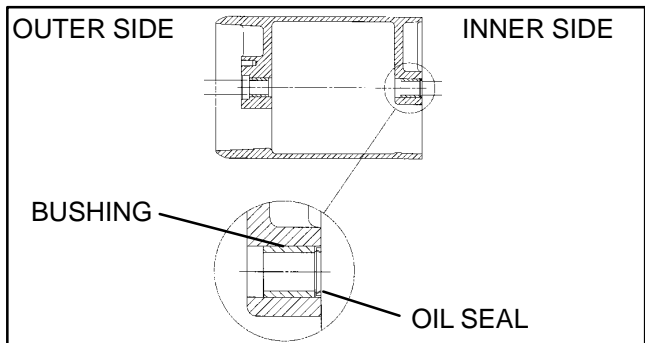

Figure 28
- Install outer bushing into the drum (Fig. 28 and 29).